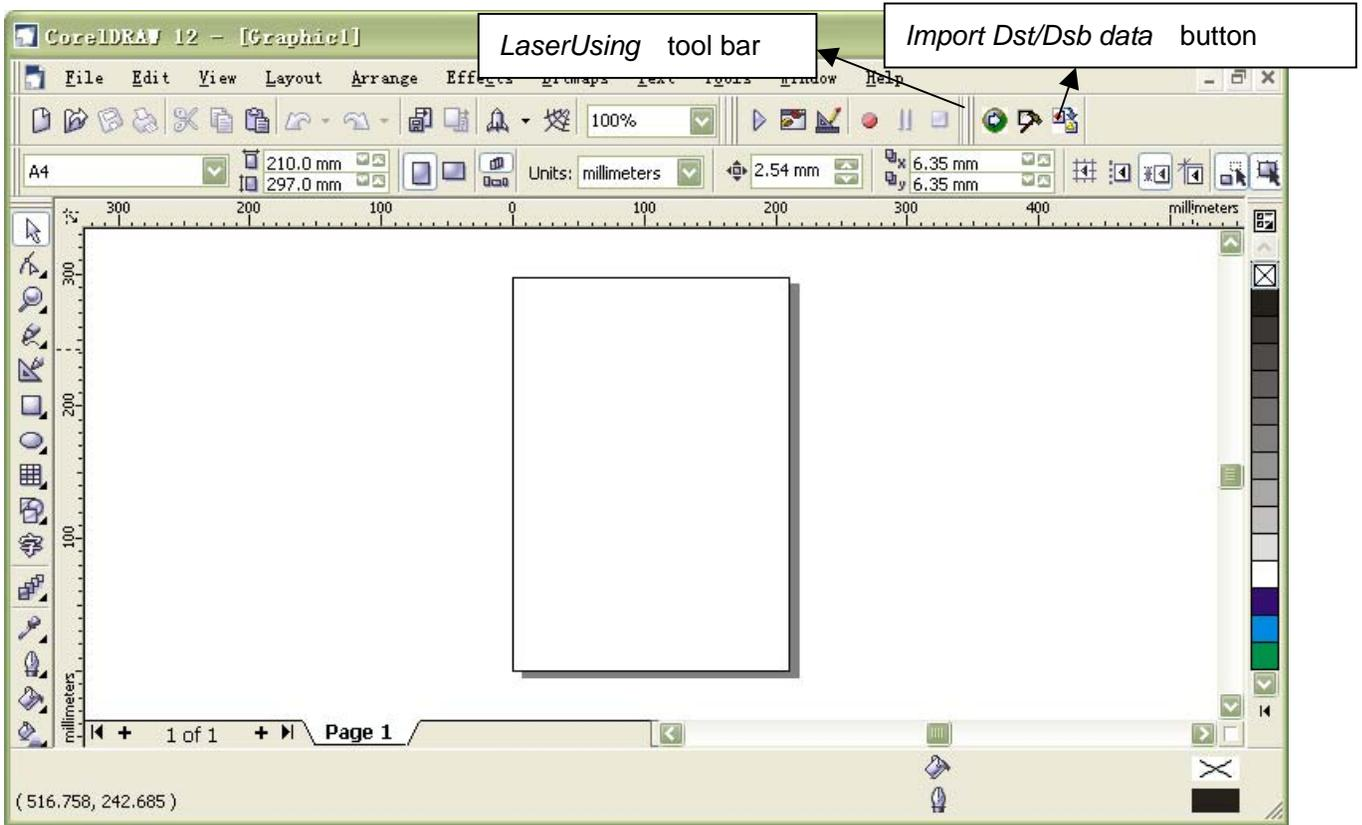

Figure 1-21
1.4.3 As shown in figure 1-21, click on the *Import Dst/Dsb file data* button in the *Laser Using* tool bar, a menu as shown in figure 1-22 will pop up: